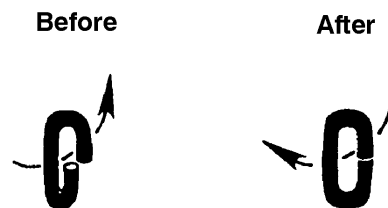

Figure 9
7. Using an adjustable wrench, twist the link horizontally until the link is in the original closed position. See Figure 9.